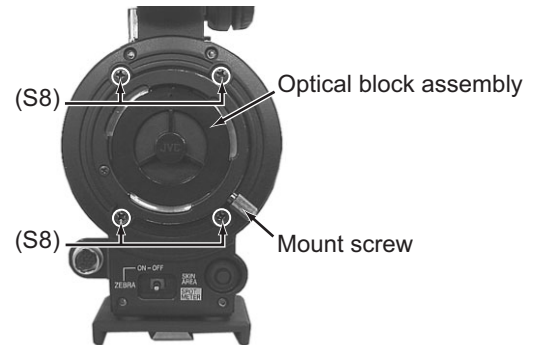
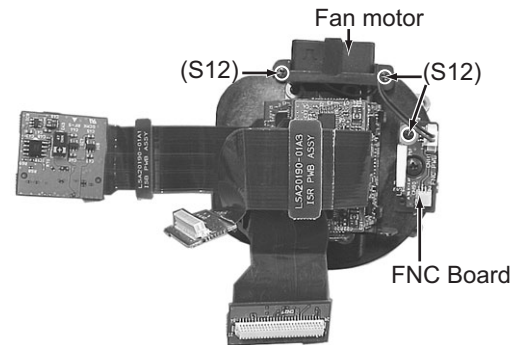
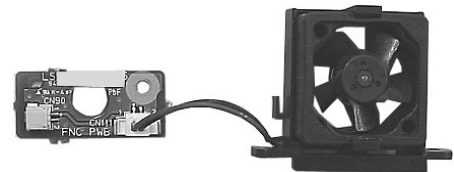

Fig.12
Fig.13
Fig.14
3.3 HOW TO REMOVE THE OPTICAL BLOCK ASSEMBLY (See figure 11, figure 12, figure 13 and figure 14)